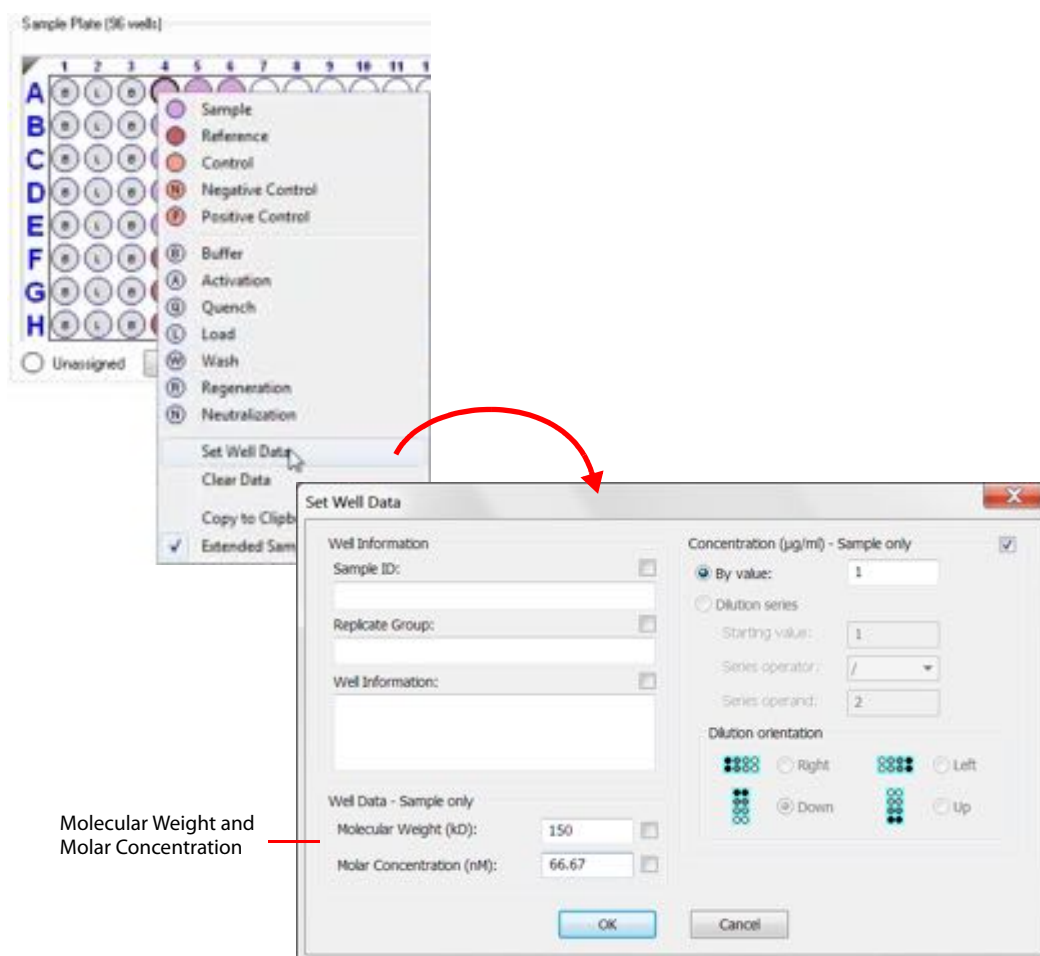

Figure 9-5: Entering Molecular Weight and Molar Concentration from the Sample Plate Map
2. In the **Set Well Data** dialog box, enter the analyte molecular and molar concentration (Figure 9-5).